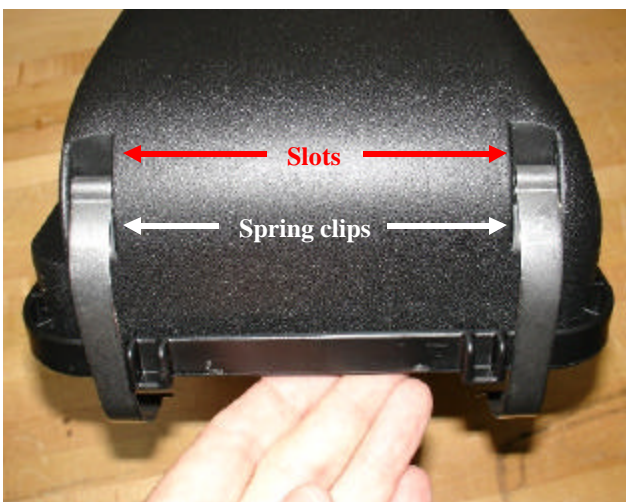

Fig. 4-8
- (k) Install two supplied spring clips into the open slots on the air cleaner inlet as shown. (Fig. 4-8)